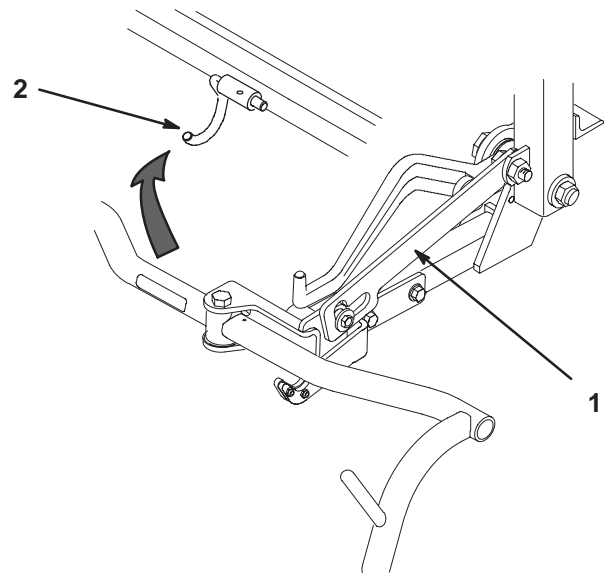

**Figure 11**
A. Remove and discard the front shield assembly (Fig. 11). Also, remove and discard the shield mounting studs and fasteners secured to each cutting unit side plate.
C. Bend the grass shield side deflectors outward until they are flush with the cutting unit side plates (Fig. 11).